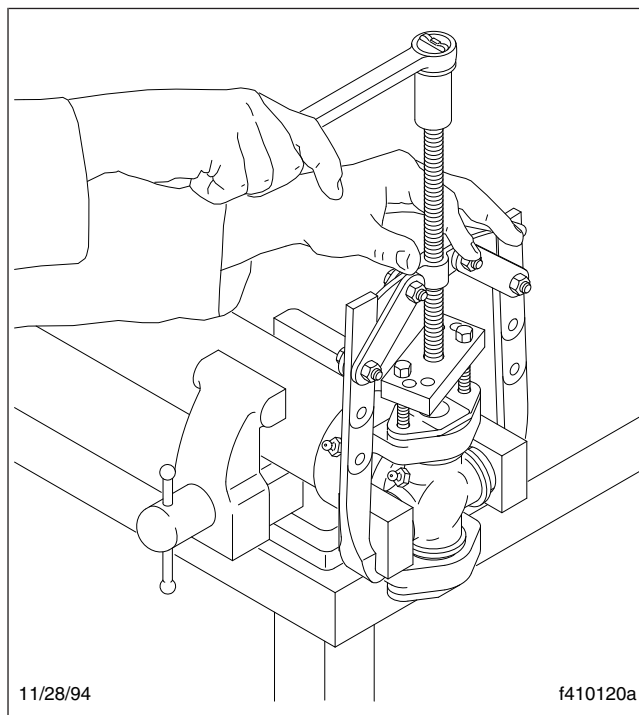

Fig. 3, Removing a Bearing Cup from a Full-Round Yoke
4. Using one of the U-joint pullers listed in Specifications, 400, remove both bearing cups from the yoke cross-holes. See Fig. 3. Remove the cross from the yoke.